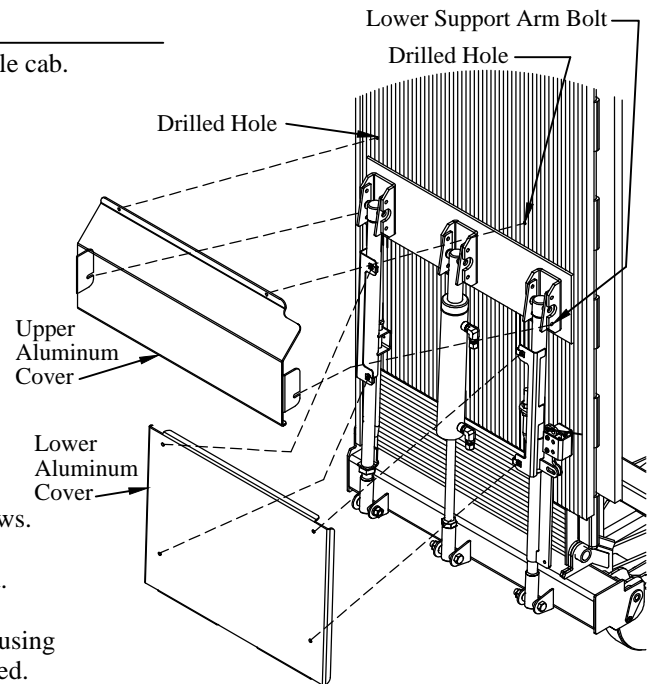
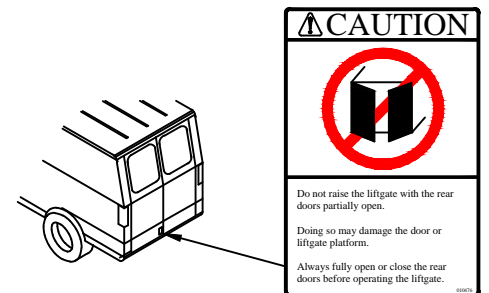

Figure 19: Aluminum cover installation.
Figure 20: Caution decal location.
- 3. Install** the upper aluminum cover on the lower 5/16" support arm bolts. 5/16" flat washers should have been installed previously (Figure 19).
- 4. Drill** two (2) 13/64" holes in the platform, using the holes in the aluminum cover as a guide.
- 5. Install** two (2) 1/4-20 self-tapping screws in the drilled holes.
- 6. Install** the lower aluminum cover using four (4) 1/4-20 self-tapping screws.
- 8. Secure** the limit switch wire to the support arm and limit switch bracket using two (2) plastic zip ties. This should be done with the platform unfolded.
- 9. Adhere** decal (PN 10476) to the exterior bottom right corner of the driver side rear door (Figure 20).